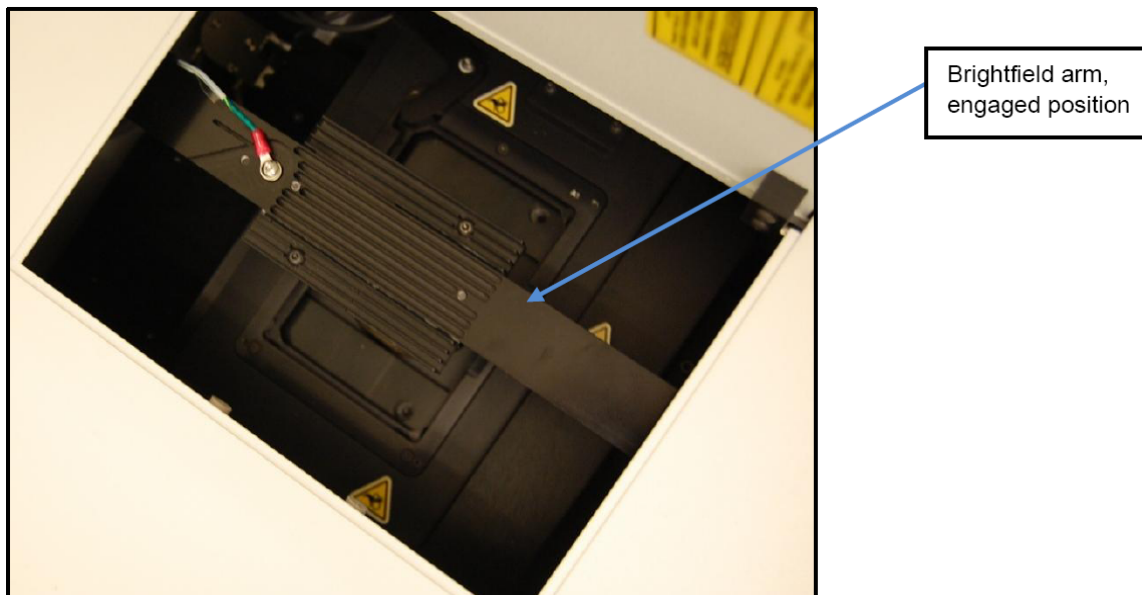
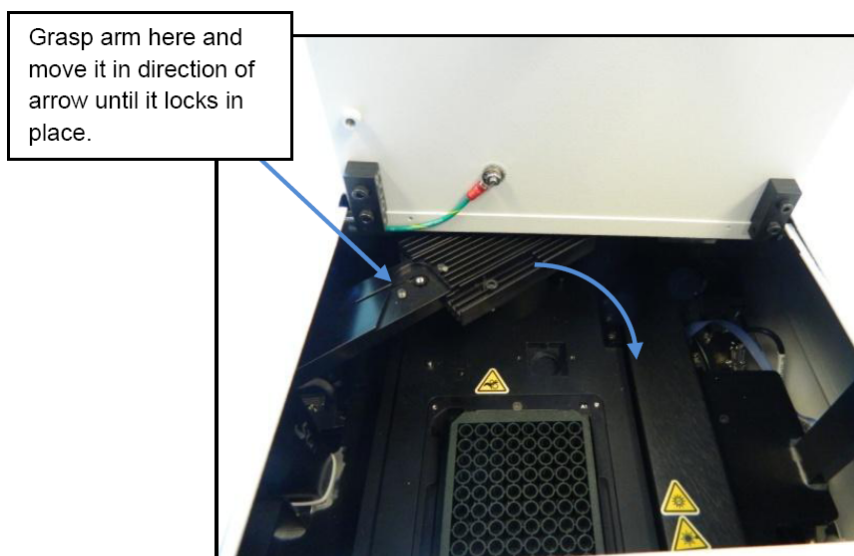

Figure 15 CellInsight™ CX7 LZR Pro HCS Reader open service door with engaged Brightfield arm.
Figure 16 CellInsight™ CX7 LZR Pro HCS Reader open service door with disengaged Brightfield arm.
2. If the Brightfield arm is in place (engaged), it will be in the position as shown in Figure 15. If the arm is not in this position, follow the next step to engage the arm.
3. If the Brightfield arm is not in the engaged position (Figure 16), you must physically move the arm to the engaged position. To do so, grasp the arm as indicated in the following image and move the arm until it is in the engaged position (as shown in Figure 15).